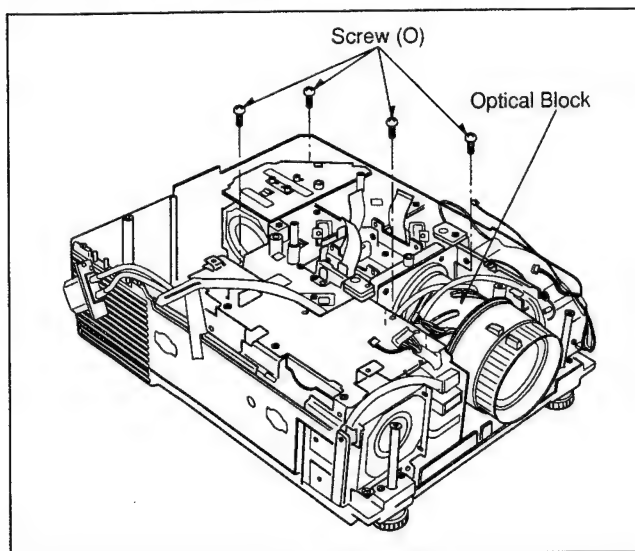

Fig. D14
3. Remove 4 screws (O) as shown in Fig. D14.